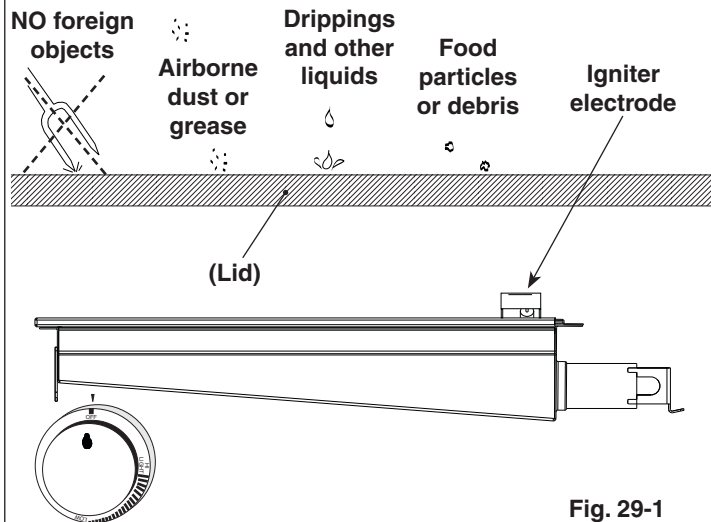

Fig. 29-1
- When not in use, **always** cover the infrared burner with the stainless-steel lid. This protects the burner from drippings (from other cooking), water, airborne particles, and foreign objects (Fig. 29-1).
- Do not strike or scrape the ceramic portion of the burner as it may chip, crack, or break (Fig. 29-1).